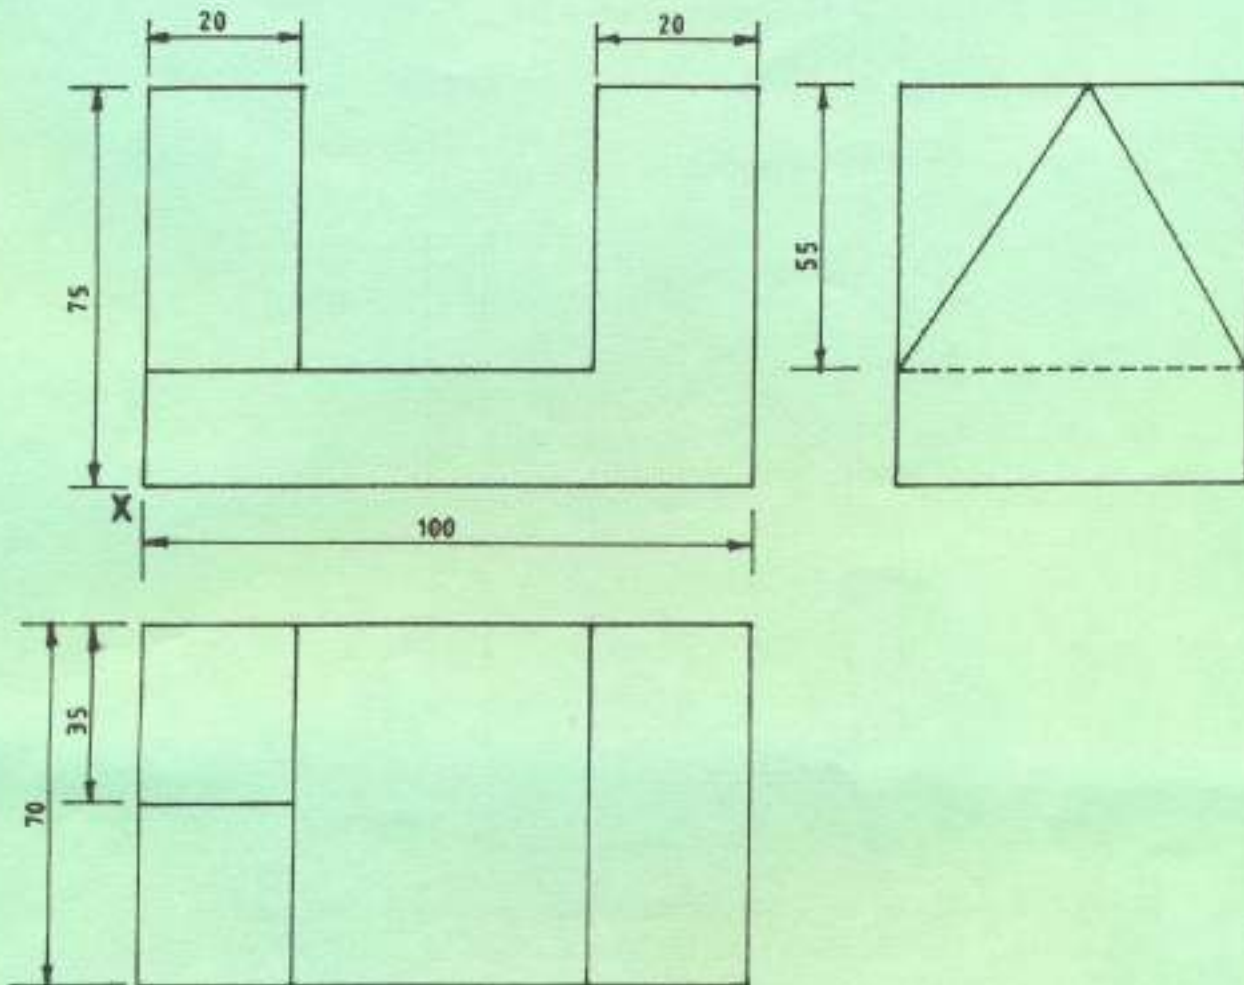

Fig. 2
- (b) Figure 2 shows three views of an object drawn in first angle projection. Draw the object in isometric making **x** the lowest point. (12 marks)